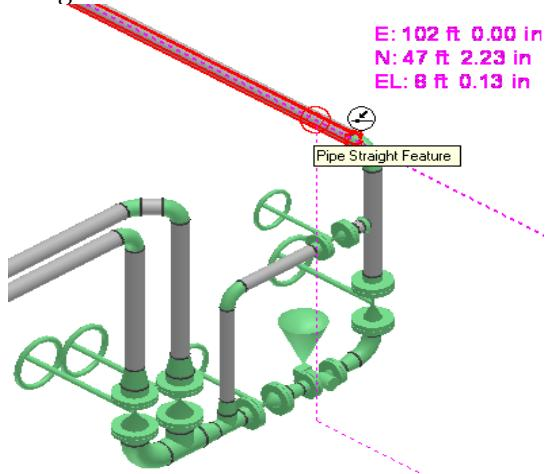

Figure 15. 2: Repositioning the Target
4. Select the **Pipe Straight Feature** of the pipeline **400-P**, as shown in Figure 15. 2, to specify the centerline of the pipe as origin.
5. Select the **Pipe Straight Feature**, as shown in Figure 15. 3, to specify the piping feature that you